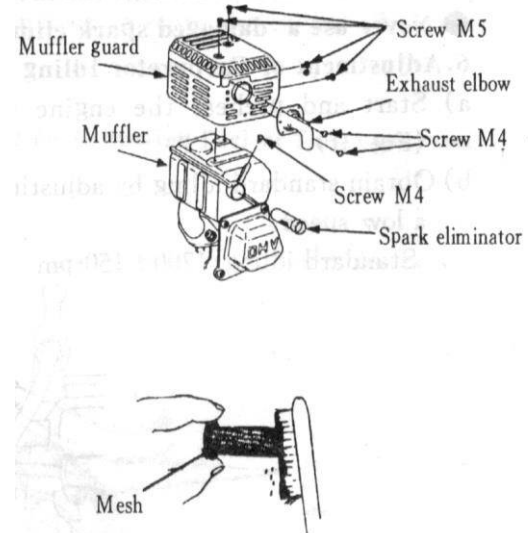

Fig. 30
- a) Unscrew two nuts M4, and remove the exhaust elbow from the engine body (Fig.30).